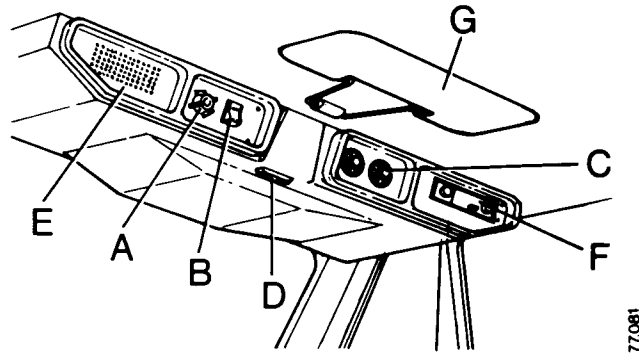

FIGURE 4. ROOF PANEL CONTROLS
The controls for heating and ventilation are shown in Fig.4. Turn temperature control knob (A) counter clockwise to increase temperature. Turn temperature control knob fully clockwise for cold air.